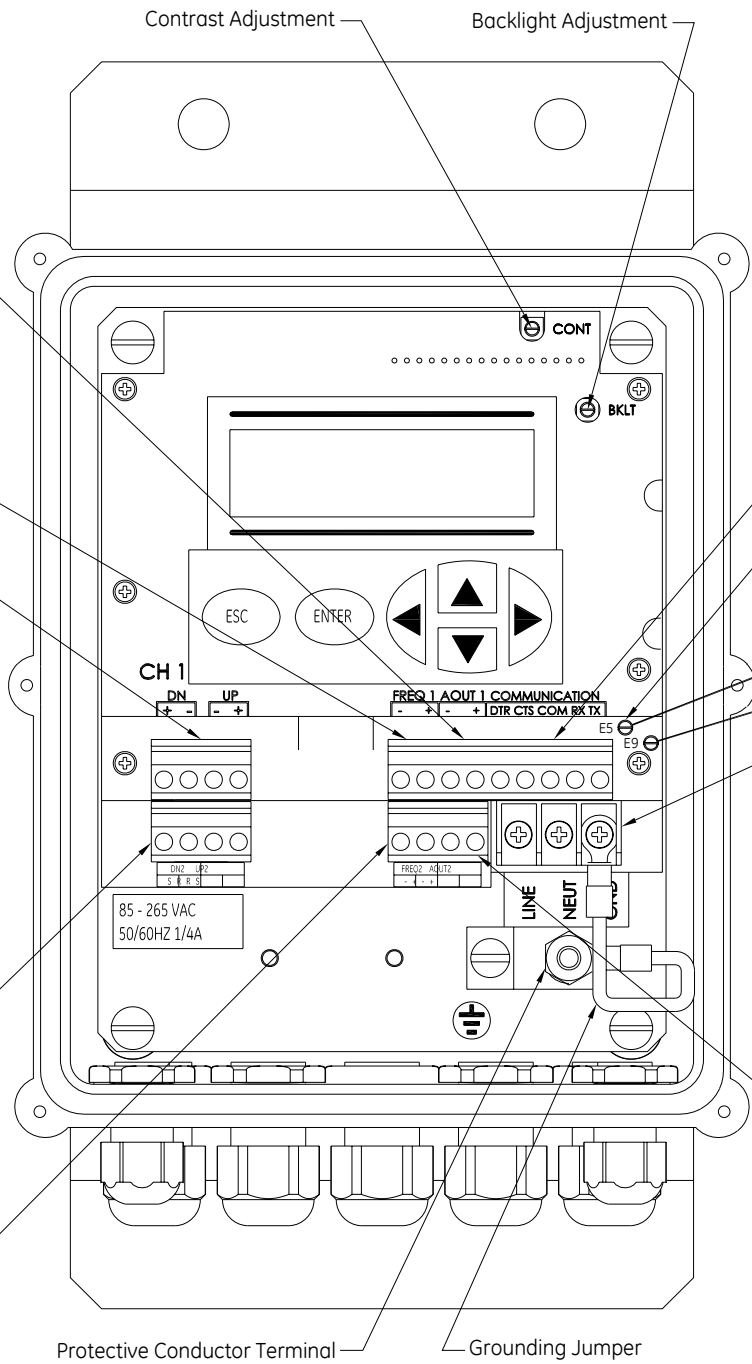

Figure 1-5: Wiring Diagram (Ref. #702-425)
2. Route the flying leads end of the cable through the conduit hole and wire the leads to the COMMUNICATION terminal block as shown in *Figure 1-5* on page 1-16. Connect the other end of the cable to the printer, ANSI terminal or personal computer. Then, secure the cable clamp.
Using an INMAC Converter To wire the RS485 serial port using an INMAC converter, refer to *Figure 1-5* on page 1-16 and complete the following steps:
1. Route one end of the cable through the conduit hole and wire the leads to the COMMUNICATION terminal block as shown in *Figure 1-5* on page 1-16. Then, secure the cable clamp.
1. Route the wires through the conduit hole and connect the TMT+ lead to Pin 2 (RX) on the COMMUNICATION terminal block (see *Figure 1-5* on page 1-16).
2. Connect the TMT- lead to Pin 1 (TX) on the COMMUNICATION terminal block. Then, secure the cable clamp.
1. Refer to *Figure 1-5* on page 1-16 to properly connect the external reset switch to the AT868.